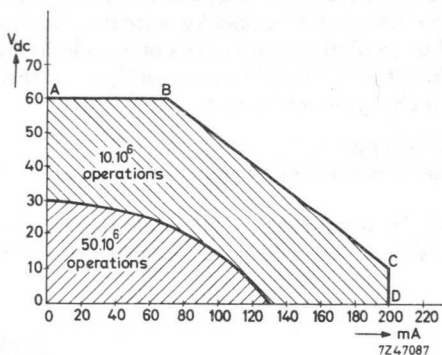

Fig. 4
- The contacts are rated to switch a maximum d.c. voltage of 60V or a maximum direct current of 200mA provided the applied values of voltage and current do not exceed those given by line ABCD in Fig. 4.
- As given in Fig. 4, if contacts are switched loaded and are provided with a suitable spark quenching circuit.